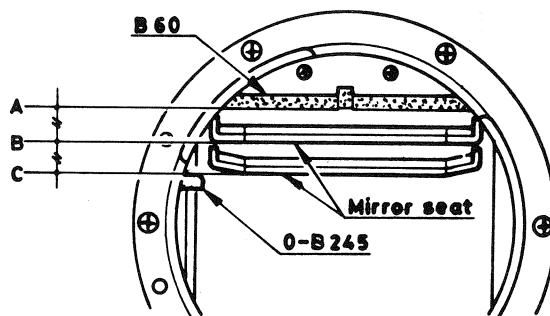

Fig. 15
- The shutter should be released when the bottom side of Mirror seat reaches between B and C as shown in Fig. 15.